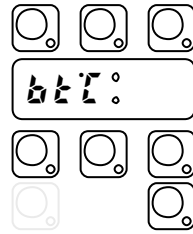

Fig. 5.2
- Press CYCLE INFINITE. The display shows alternatively the symbol *bEt* (Fig.5.2) and the corresponding value *76* (Fig.5.3);
- Press CYCLE INFINITE. The display shows alternatively the symbol (Fig.5.2) and the corresponding value (Fig.5.3);